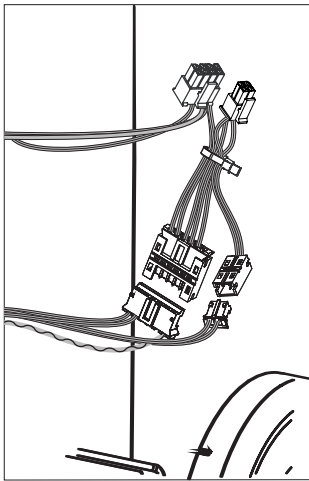

Fig. 11a
- a. Connect 6-pin connector from lock body to 6-pin connector on reader harness (Fig. 11a, b).
- b. Connect 2-pin connector from lock body to 2-pin connector on reader harness (Fig. 11a, b).